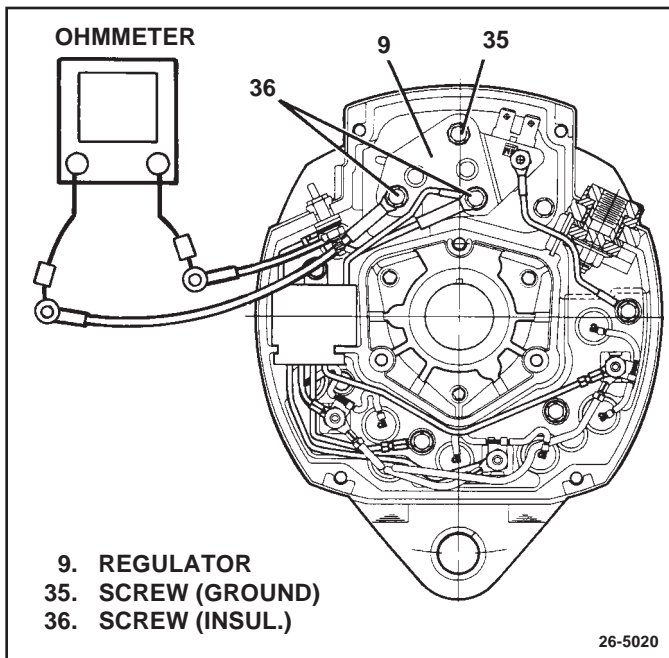

Figure 12. Checking Field Coil Resistance
3. Disconnect 2 field leads from regulator (9) by removing 2 insulated regulator attachment screws (36). (See Fig. 12) Use ohmmeter to check resistance of field coil. Compare to Field Check ohms in Specifications at the end of this manual or from Service Specification Bulletin. If outside specifications, replace field coil as described later in this section.